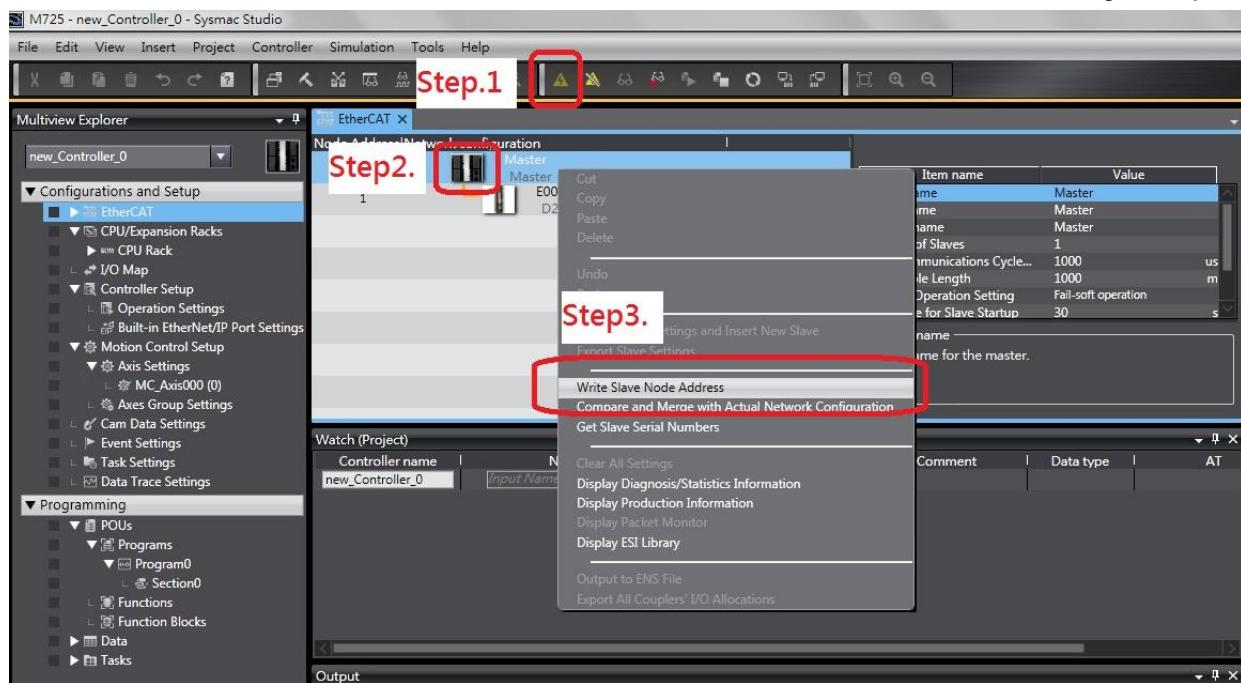

Fig. 5-38
- (3) Open the window of “Write Slave Node Address”, as shown in Fig. 5-38.